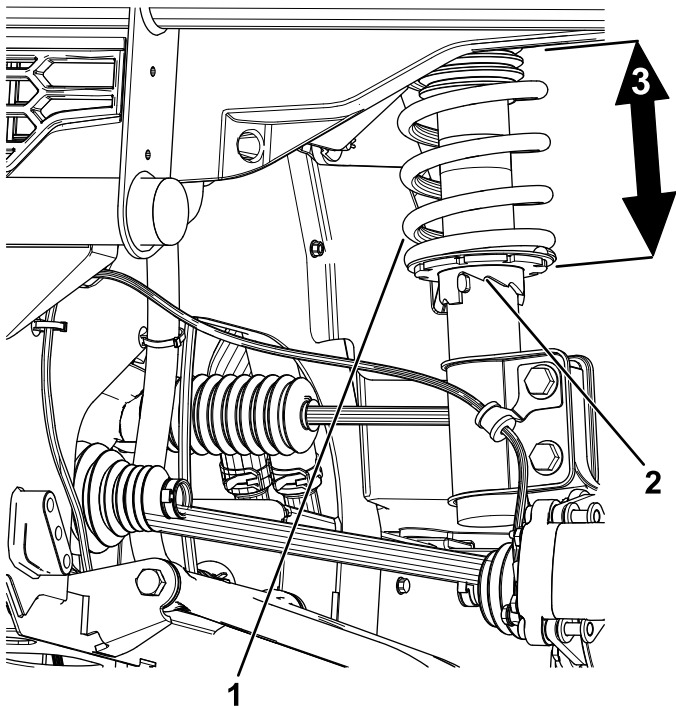

Figure 116
2. If the ground clearance is not correct, use the spring-adjuster wrench to rotate the collar on the shock absorber to align the wheel (Figure 116).